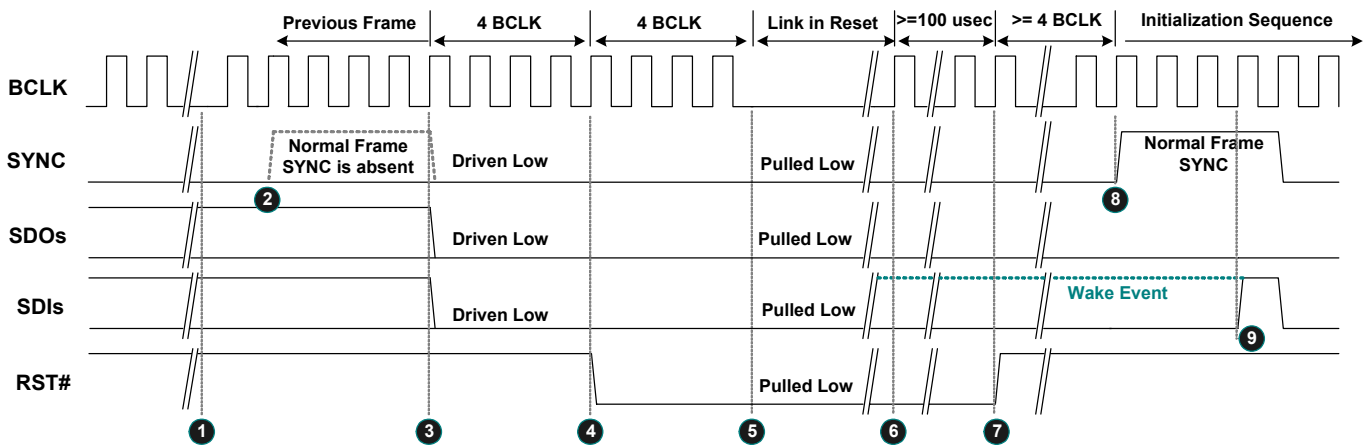

Figure 15. Link Reset Timing
3. Software initiates power management sequences. Figure 15, page 20, shows the 'Link Reset' timing including the 'Enter' sequence (①~⑤) and 'Exit' sequence (⑥~⑨)